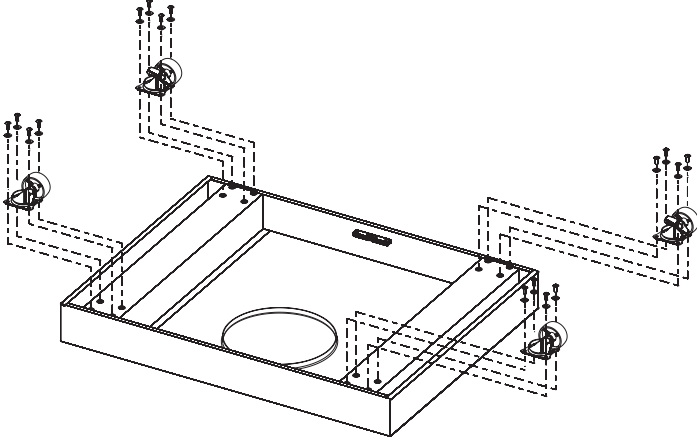

Figure 1
2. Attach two locking casters to front of cart bottom with four (4) lock washers, and 3/4" screws per locking caster. **See Figure 1.**
3. Attach two (2) non-lock casters to back of cart bottom with four (4) washers, and 3/4" screws per caster. **See Figure 1.**